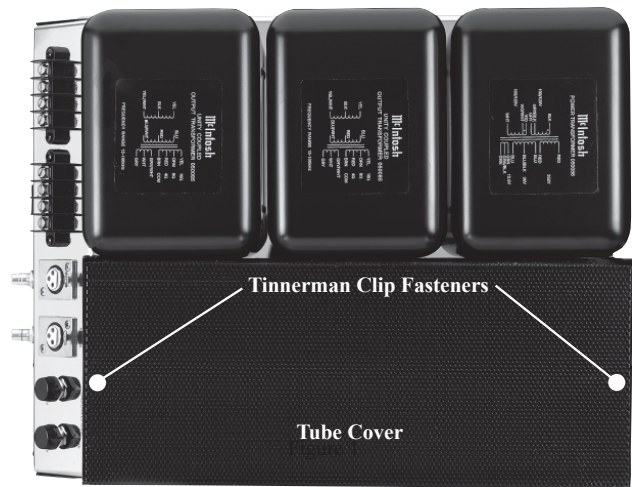

Figure 1
2. Remove the Tube Cover from the MC275 Chassis by lifting up on both sides. Refer to figure 1.
Carefully remove sufficient insulation from the cable ends, refer to figures 1, 2 & 3. If the cable is stranded, carefully twist the strands together as tightly as possible.